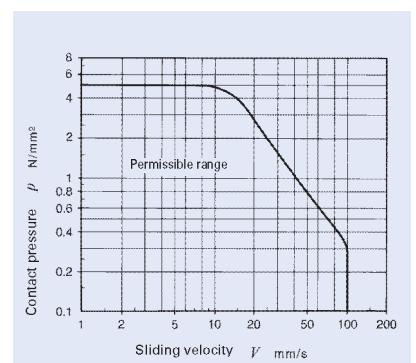

Fig. 5  $pV$  diagram for maintenance-free type PILLOBALL Rod Ends
The life of maintenance-free type PILLOBALL Rod Ends is obtained from the total sliding distance  $S$  which is given in Fig.5 for the contact pressure  $p$  obtained from Formula (3).